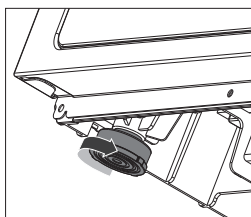

Figure 1: Rotate the foot to the bottom and tighten
- b. Rotate the four feet of the dryer to the bottom and tighten (As shown in Figure 1).
When using the drying support, install it as shown in Figures 1 and 2.